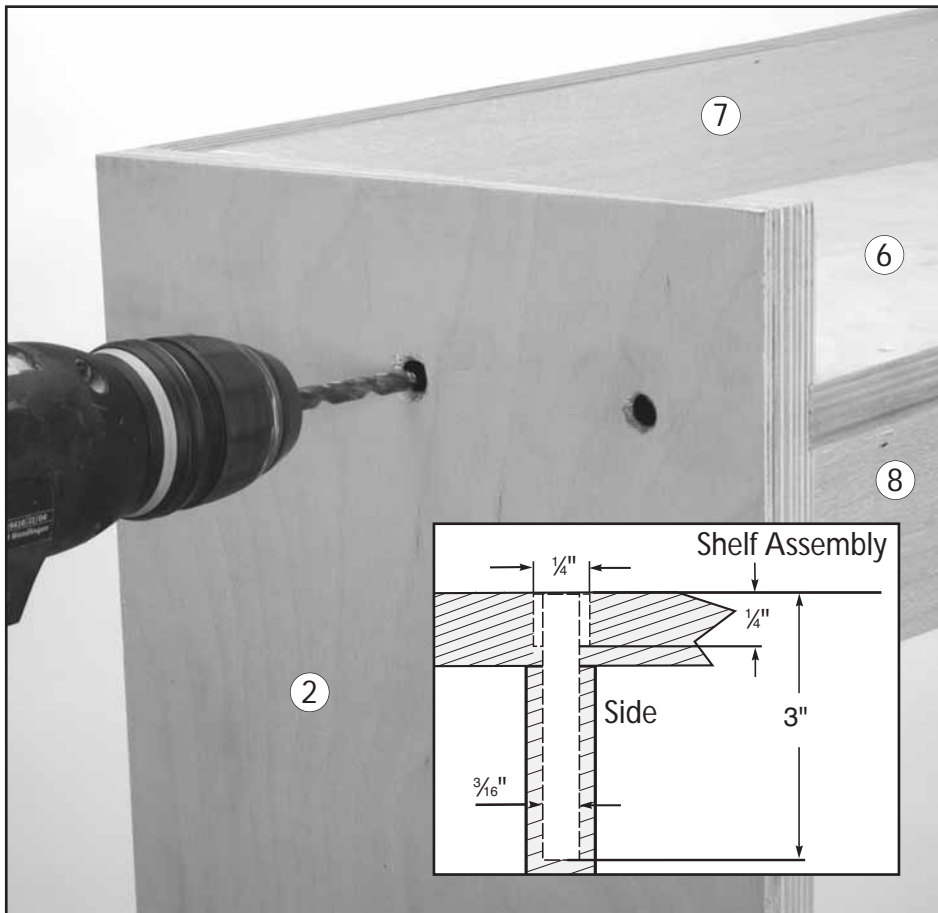

Fig. 2
9. Next, drill a 3/16" diameter hole, 3" deep. Fig. 2.
10. Place the Bottom Back Support (9) in the slots in the two Sides (2).
11. Repeat steps 8 through 10 for the two remaining indicator holes in both Sides. A cutaway of what you should have is shown in **Fig. 2 inset**.
12. Screw in the ten 2" Confirmat Screws (20).